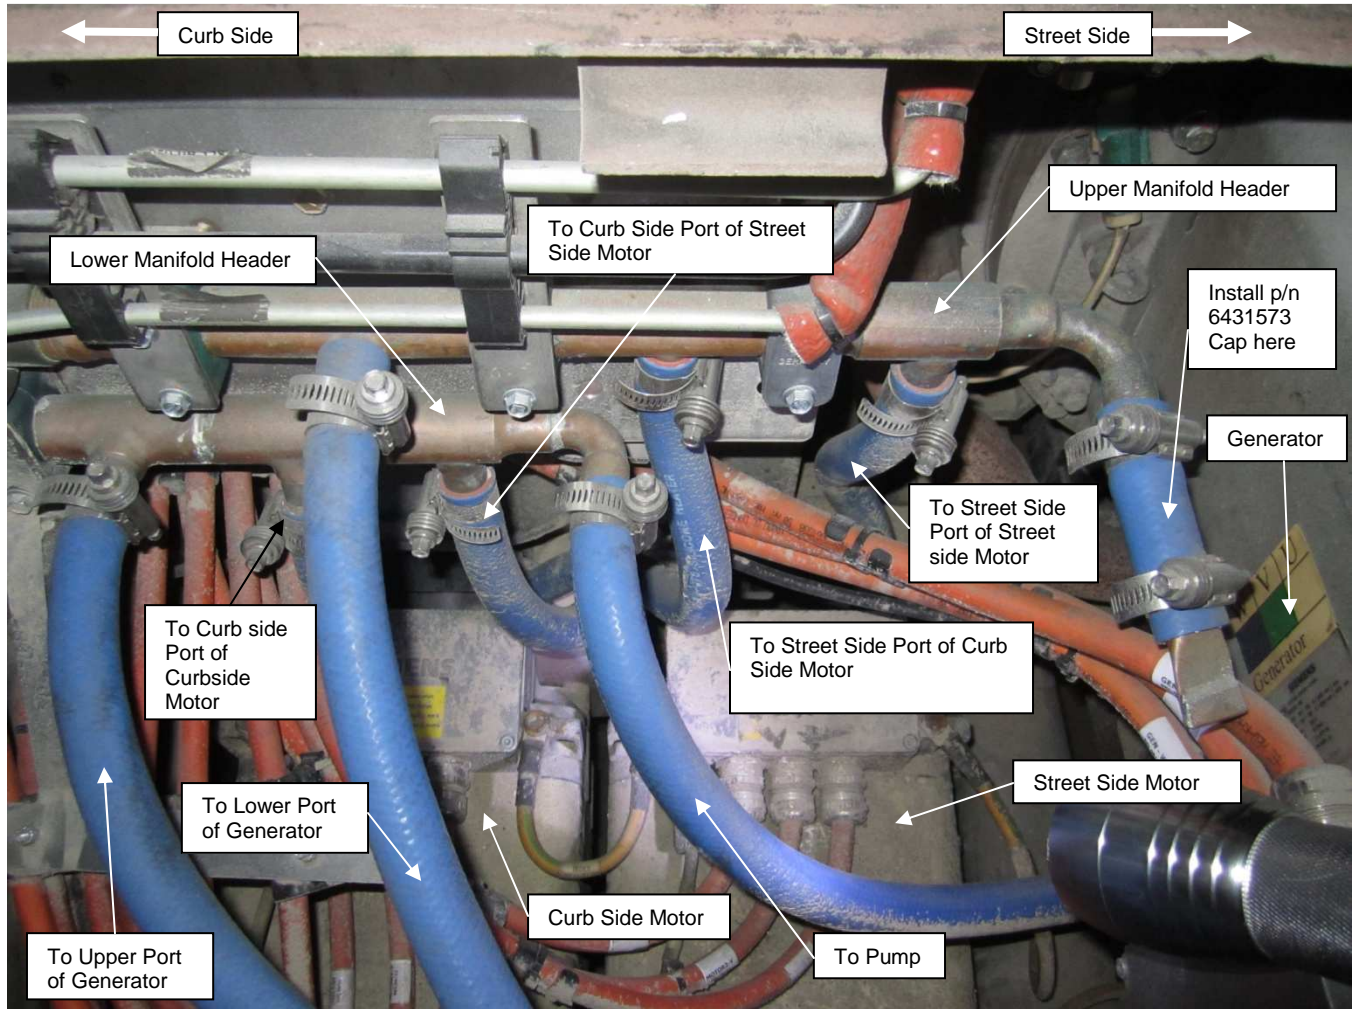

Figure 2: Hose Layout on Upper/Lower Manifold Headers
4. Locate the upper and lower coolant manifolds, generator and two electric drive motors. Figure 2.
5. Check to ensure that upper manifold header and components are plumbed as follows: Figure 2.
6. Check to ensure that lower manifold header and components are plumbed as follows: Figure 2.
7. If the hose layout at the upper and lower manifold headers does not match Figure 2 and or the bypass hose is present, the hoses will have to be reconfigured.
- b. Change the hose connections as necessary to match the configuration shown in Figure 2. Use 3/4" hose NF P/N 106197 and hose clamps NF P/N 274935 as needed. Torque hose clamps to 56-62 IN-LBS.
8. Locate the street side branch of the upper manifold. Figure 2.